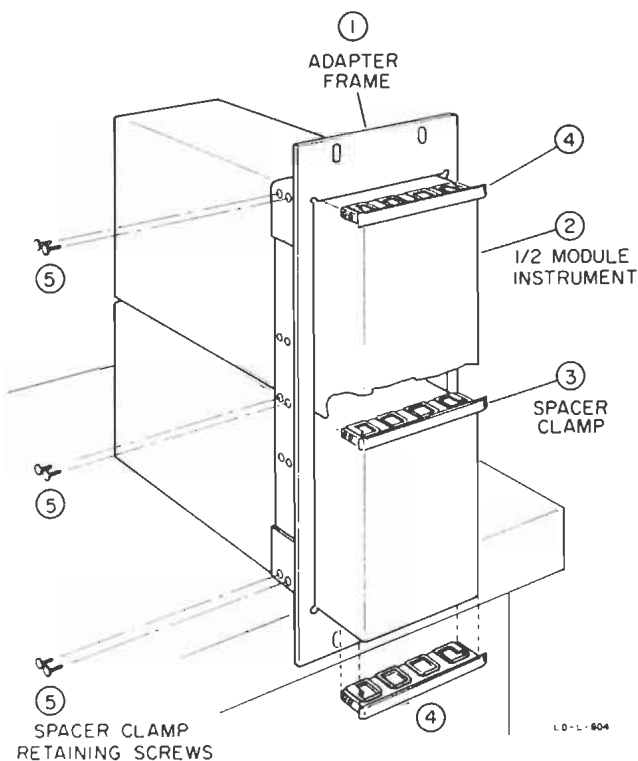

Figure 2-4. Two Half Module in Rack Adapter
a. Place the adapter frame on edge of bench as shown in step ①, figure 2-4.
b. Stack the submodular units in the frame as shown in step ②, figure 2-4. Place the spacer clamps between instruments as shown in step ③, figure 2-4.
c. Place spacer clamps on the two end instruments (see step ④, figure 2-4) and push the combination into the frame.